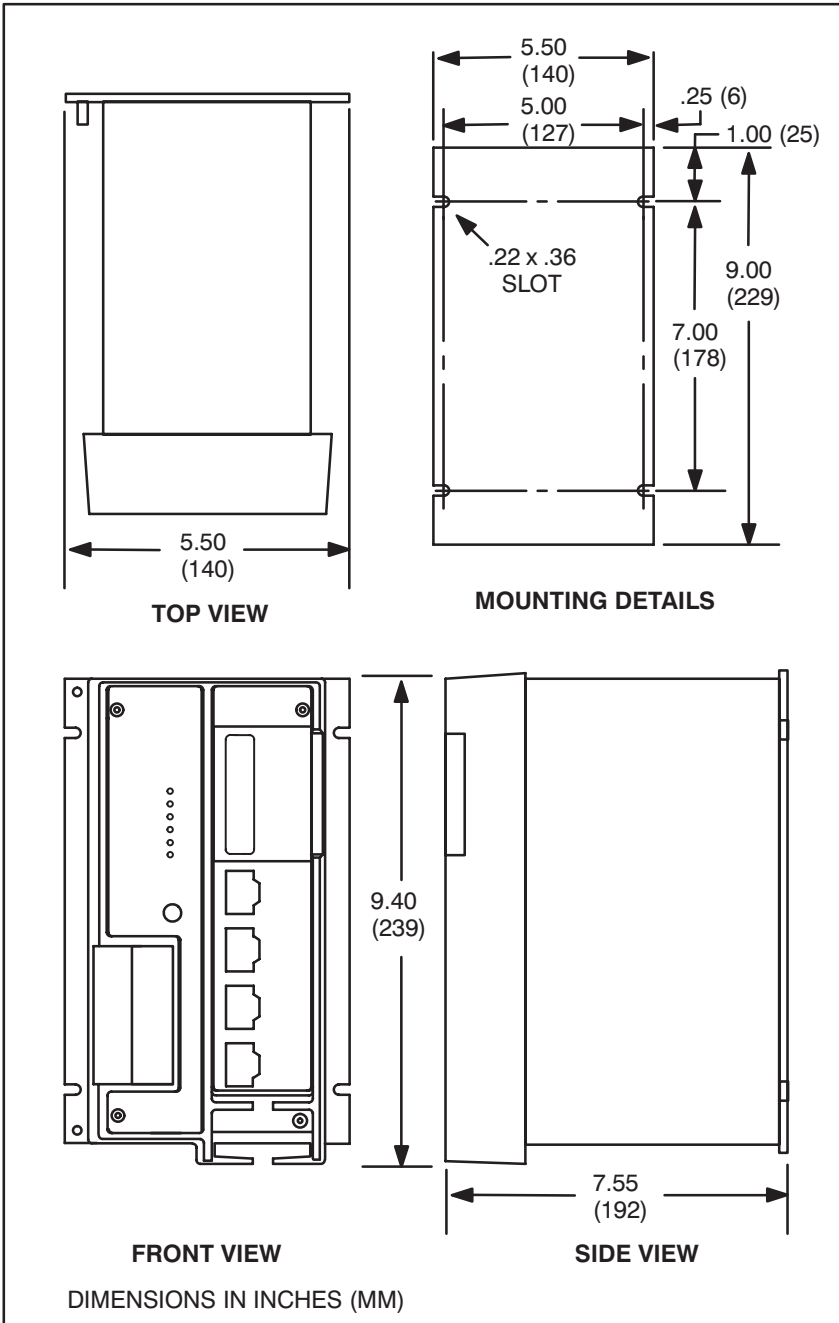

Figure 3.17 - Mounting Dimensions
- Step 1. Refer to the mounting dimensions in figure 3.17. The Remote I/O Head is designed to be mounted vertically (either in an enclosure or on a mounting surface to ensure proper air flow for cooling). Additional units, Local Heads, or rails may be mounted as close as the mounting feet will allow.
- Step 1. Refer to the mounting dimensions in figure 3.17. The Remote Drive Interface Head is designed to be mounted vertically (either in an enclosure or on a mounting surface to ensure proper air flow for cooling). Additional Remote Drive Interface Heads may be mounted as close as the mounting feet will allow. When designing your layout, keep in mind that the Local I/O Interface cable (M/N 45C8) is 10 feet long. You must ensure that the cables can reach from the Remote Drive Interface Head to each drive.